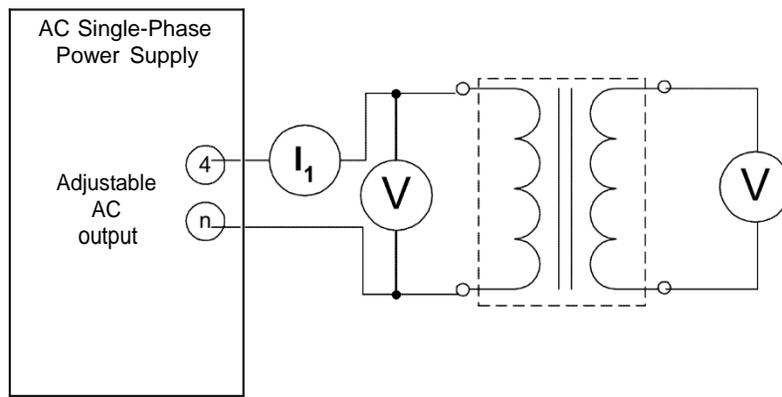

FIGURE 4.19
- Step 3: Connect the circuit shown in Figure 4.19 using the 120V winding (terminal 1 and 2) as your primary winding.